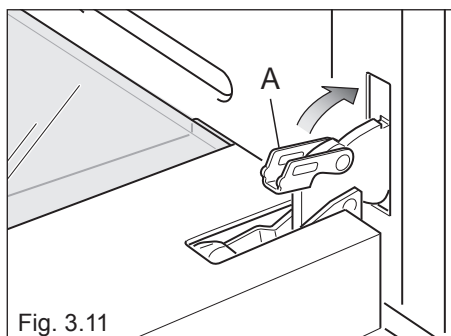

Fig. 3.11
4. Fully close the levers "A" on the left and right hinges, as shown in the figure 3.11.